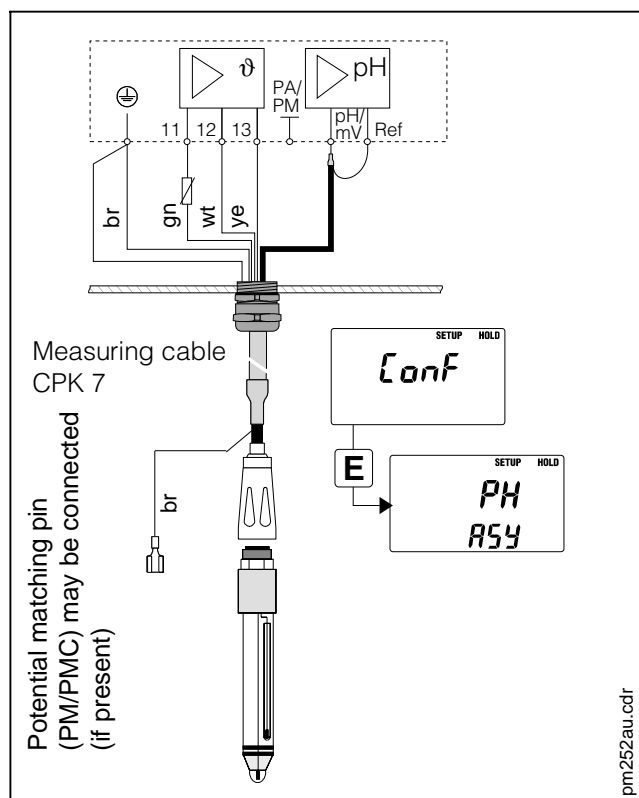

Fig. 4.7 Asymmetrical high-impedance pH electrode connection
- No potential matching connector present – asymmetrical connection (see figure 4.7).